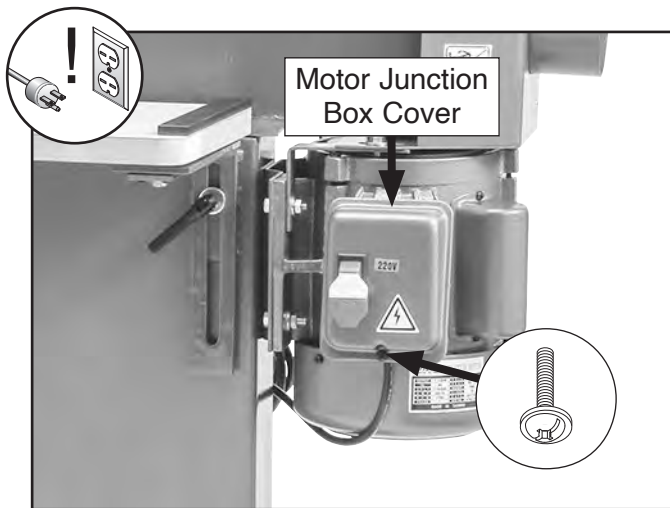

Figure 8. Location of motor junction box cover and screw.
2. Remove screw shown in **Figure 8** to remove motor junction box cover.